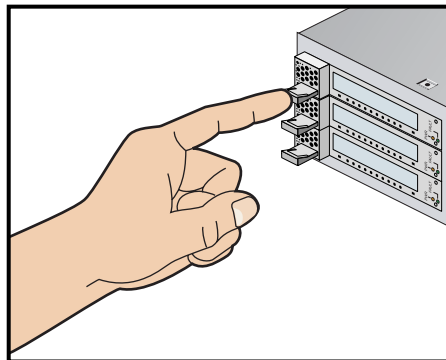

Figure 6-25 Seating the Card in the Slot
8. Push in horizontally on the carrier seating bar, as shown in Figure 6-25, to seat the card securely in the slot.